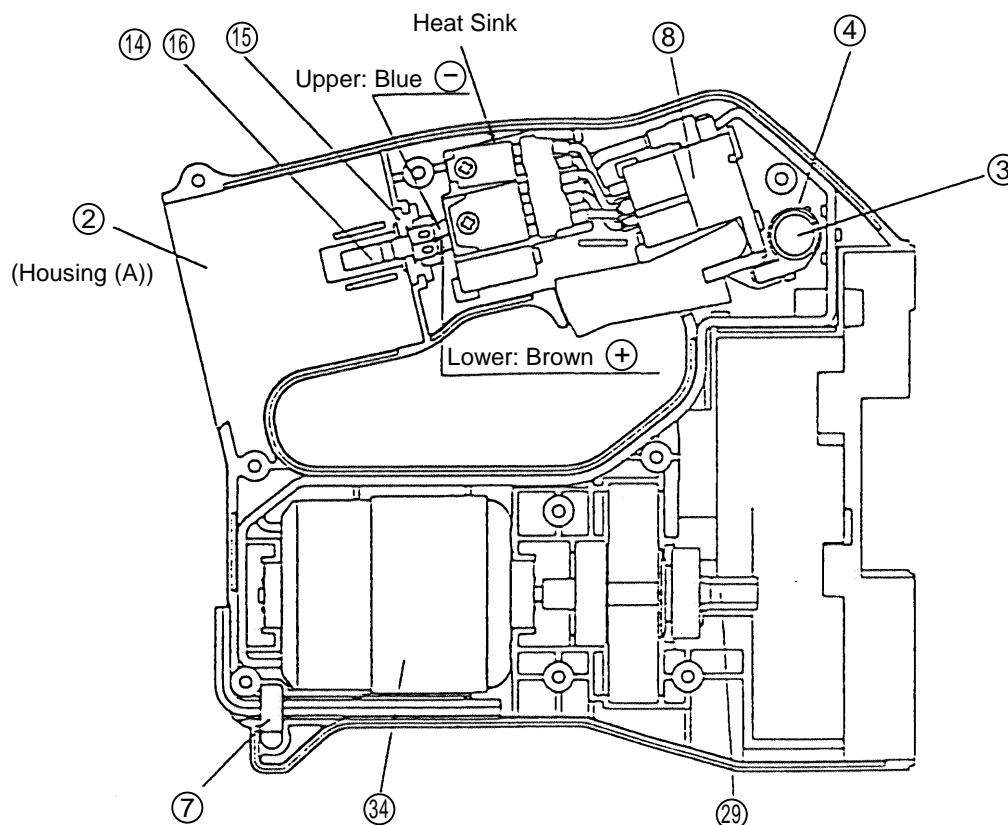
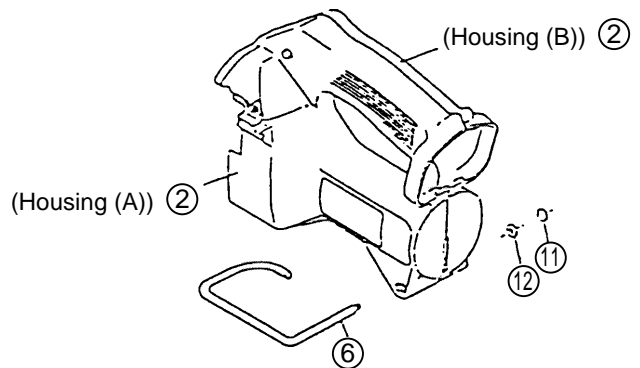

Fig. 11
Fig. 17
- (c) After Housing (B) ② has been removed, the components inside Housing (A) ② can be taken out either separately or in assembled units. (See Fig. 11)
(c) Installation of the power Supply Unit. (See Fig. 11)
- (e) Install the Spring ④ into the Push Button ③. (See Fig. 11)
- (f) Install the Spanner Holder ⑦ into Housing (A) ②. (See Fig. 11)
- (g) Arrange the leadwires in the proper places in Housing (A) ② and, while being very careful not to pinch any of the leadwires between the two parts, attach Housing (B) ② to Housing (A) ② with the nine black D4 x 20 Tapping Screws w/Flanges ⑨.
- (h) Mount the Hook ⑥, ensuring it is mounted in the proper direction, and attach the M5 Washer ⑫ and E-Type Retaining Ring for 4 mm shaft ⑪. (See Fig. 17)